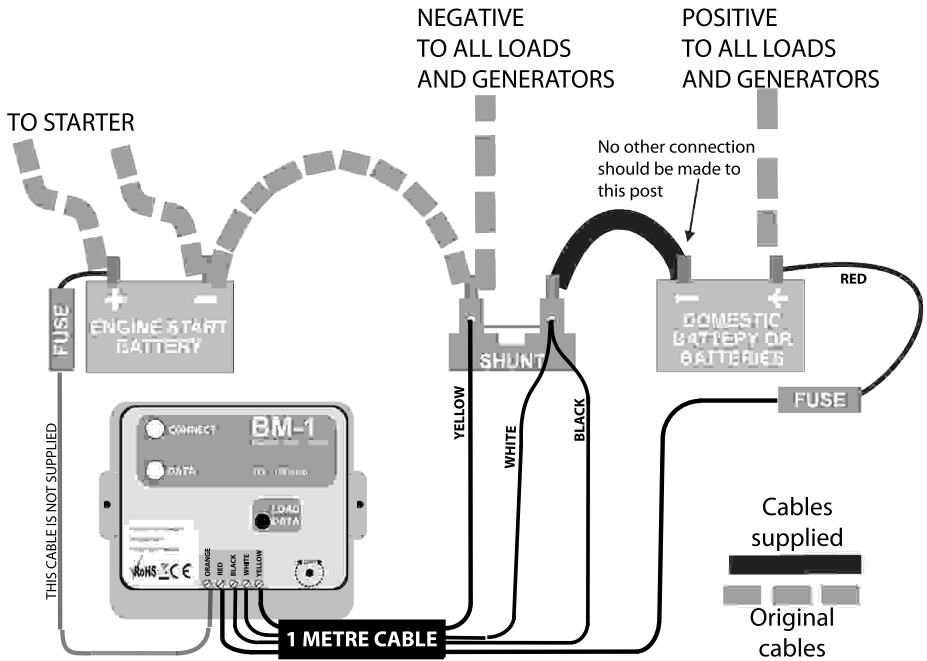

Figure 2 – Domestic and starter batteries
7. If the starter battery voltage is to be monitored then connect the orange wire (not supplied) to the positive terminal of the starter battery as shown in Figure 2. A 1 amp fuse close to the starter battery will afford protection if a fault occurs.